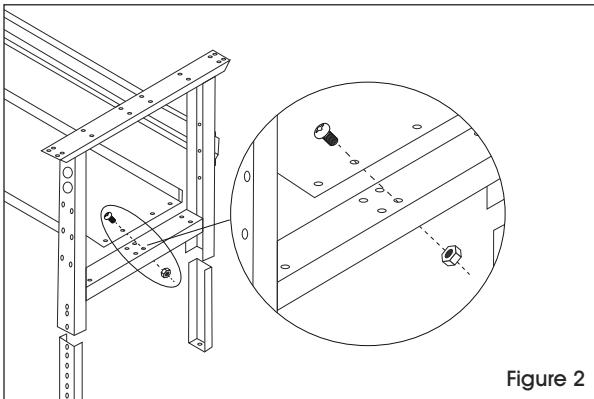

Figure 2
4. Place lower shelves (4) across braces of legs. Attach lower shelves using 16 bolts and nuts. Now, fully fasten hardware placed in step 3. (See Figure 2)
5. To attach tabletops (5) to frame assembly, place tabletop on a smooth, non-marring surface with top side facing down.